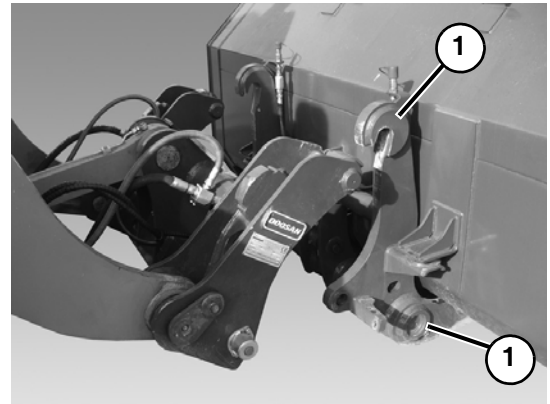

Figure 3
5. Inspect the pivot pins and mounts (1, Figure 3) (on the attachment) for wear or damage. Repair or replace damaged parts if necessary.